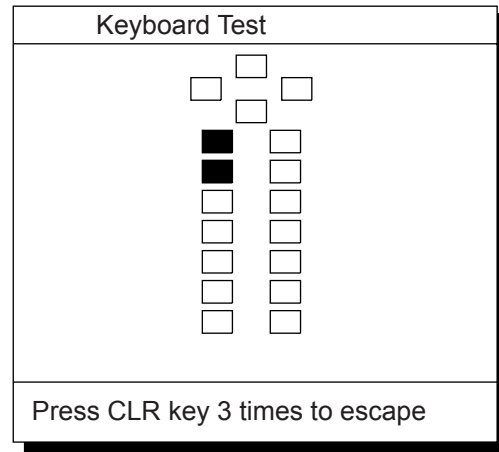

Figure 9-12 KEYBOARD TEST screen
- 2) To change the test pattern, press the **NU/CU ENT** key. Each time the key is pressed one of the patterns shown in Figure 9-12 appears.